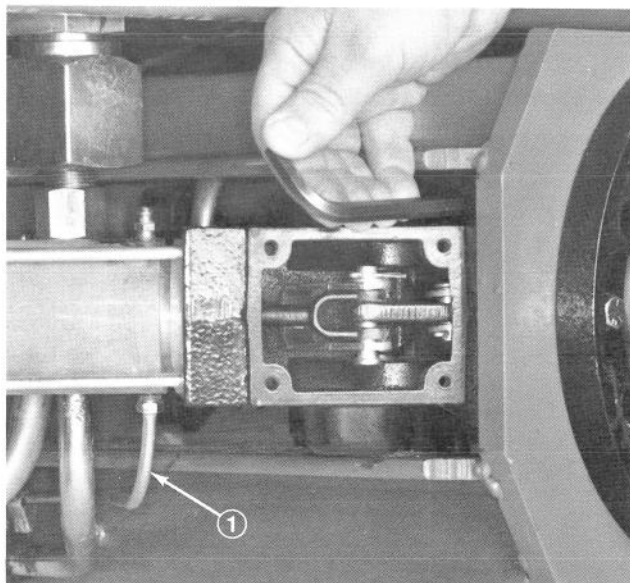

Figure 8
13. Remove four allen head capscrews to disconnect brake actuator housing from brake housing (Fig. 8). Be careful not to damage the brake tube line when moving the brake actuator housing away from the brake housing.